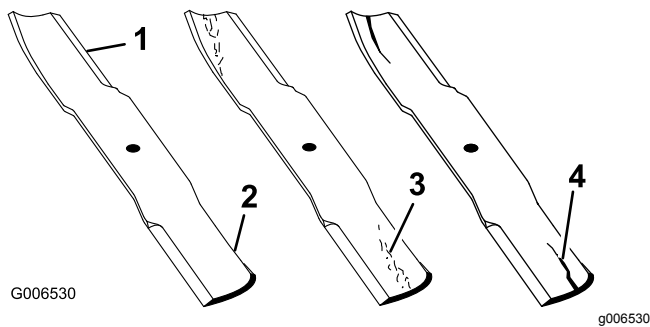

Figure 111
1. Inspect the cutting edges (Figure 111).
4. If you notice any cracks, wear, or a slot forming in this area, immediately install a new blade (Figure 111).